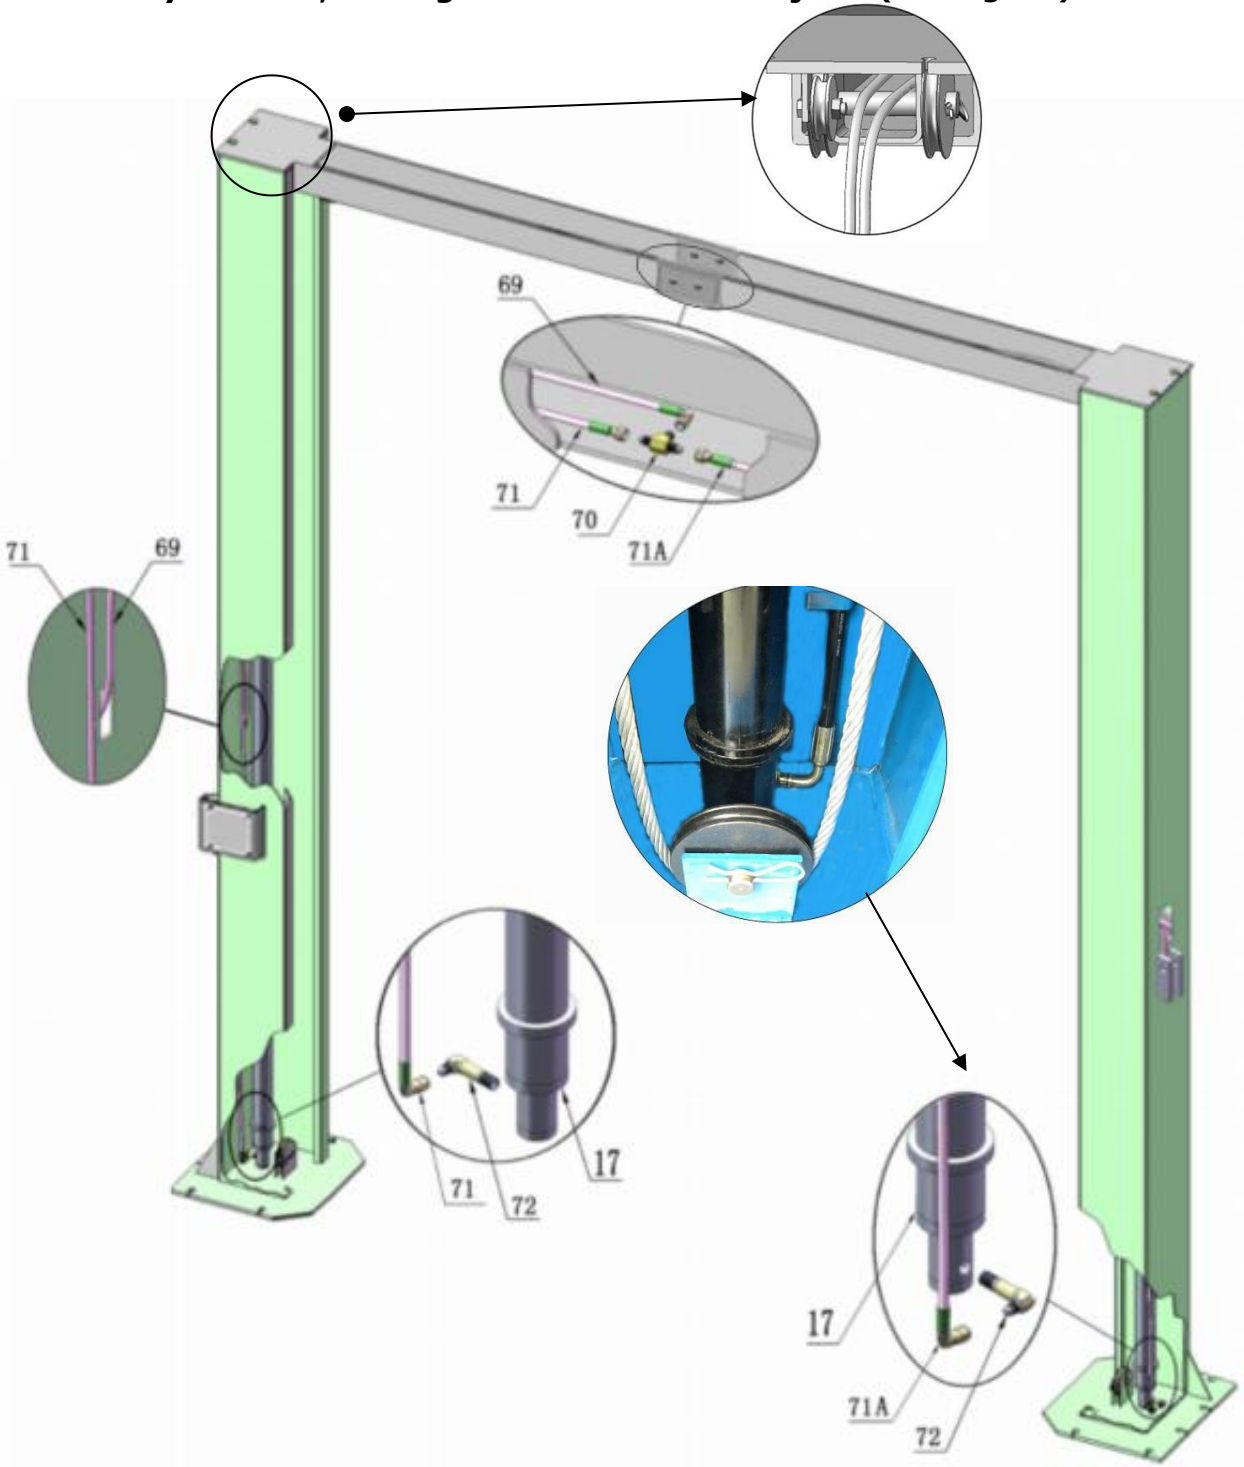

Fig. 20
K. Assembly oil hose, and tighten all the oil hose joint (See Fig. 20).